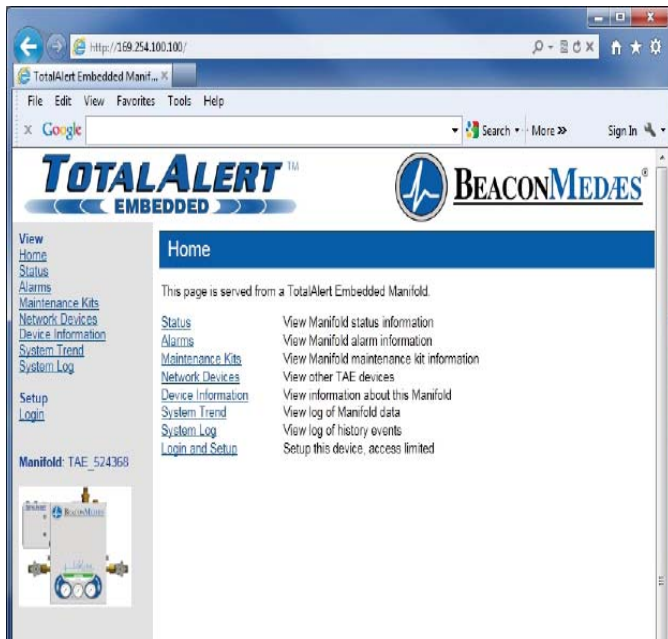

Figure 30: Manifold Home Page
1. Once connected to the TotalAlert Embedded control system, your browser will display the typical home page (Figure 30).